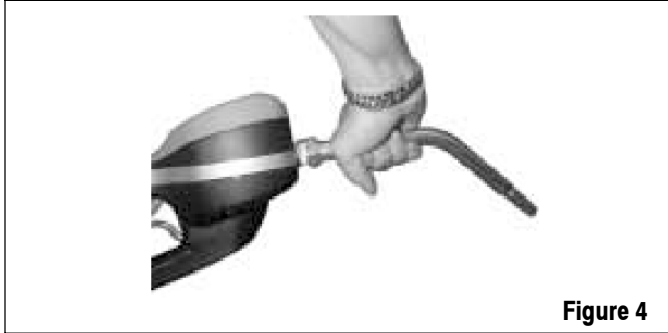

Figure 4
8. Thread the new nozzle onto the opposite end of the meter and screw in tightly using an open ended, adjustable wrench (see figure 4).